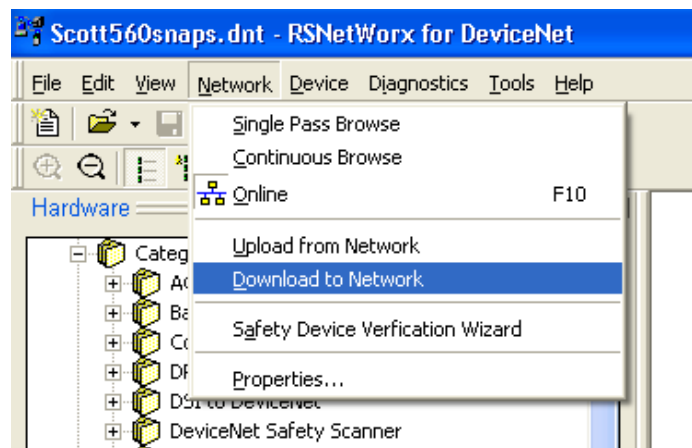

Figure 4-26: Network Download Confirmation Prompt
- Download the configuration to the scanner card, in order to commission the network. In the prompt that appears (Figure 4-26), click Yes to continue. Note that some scanner cards may require power down for changes to take effect.